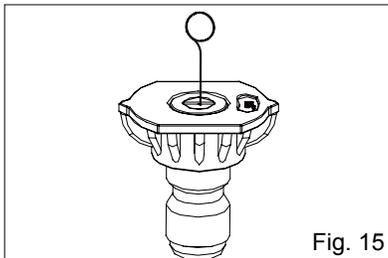

Fig. 15
SPRAY TIP MAINTENANCE (See Figure 15.)
- Using the spray tip cleaning tool provided, free any foreign materials clogging or restricting the spray tip opening. Refer to Fig. 15
Spray tip has not been installed on wand assembly.	Add desired pressure tip to end of wand. See page 22 Fig. 15 for details.